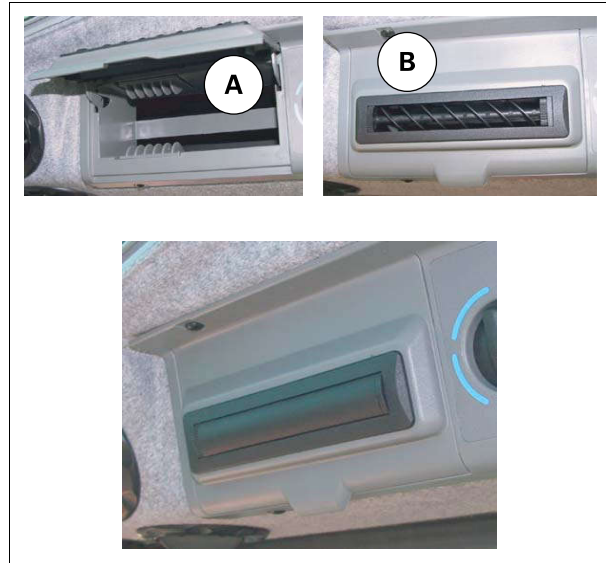

Fig. 17.
| (4) | Heater controls | (10) | Chiller fig. 17 |